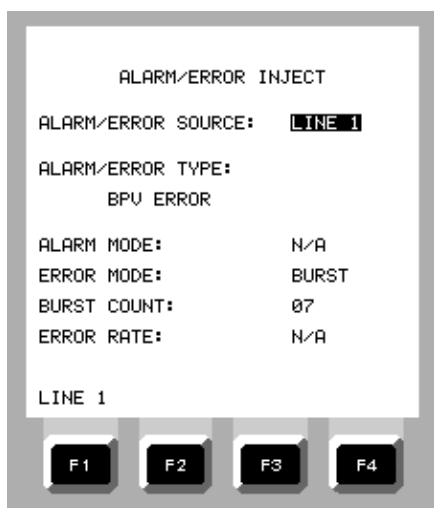

Figure 2-24. DS1 ALARM / ERROR INJECT Menu
- c. ALARM/ERROR INJECT - Allows selection of the type of alarms or errors to be injected into test data stream, including rate of error insertion (Figures 2-24 and 2-25).